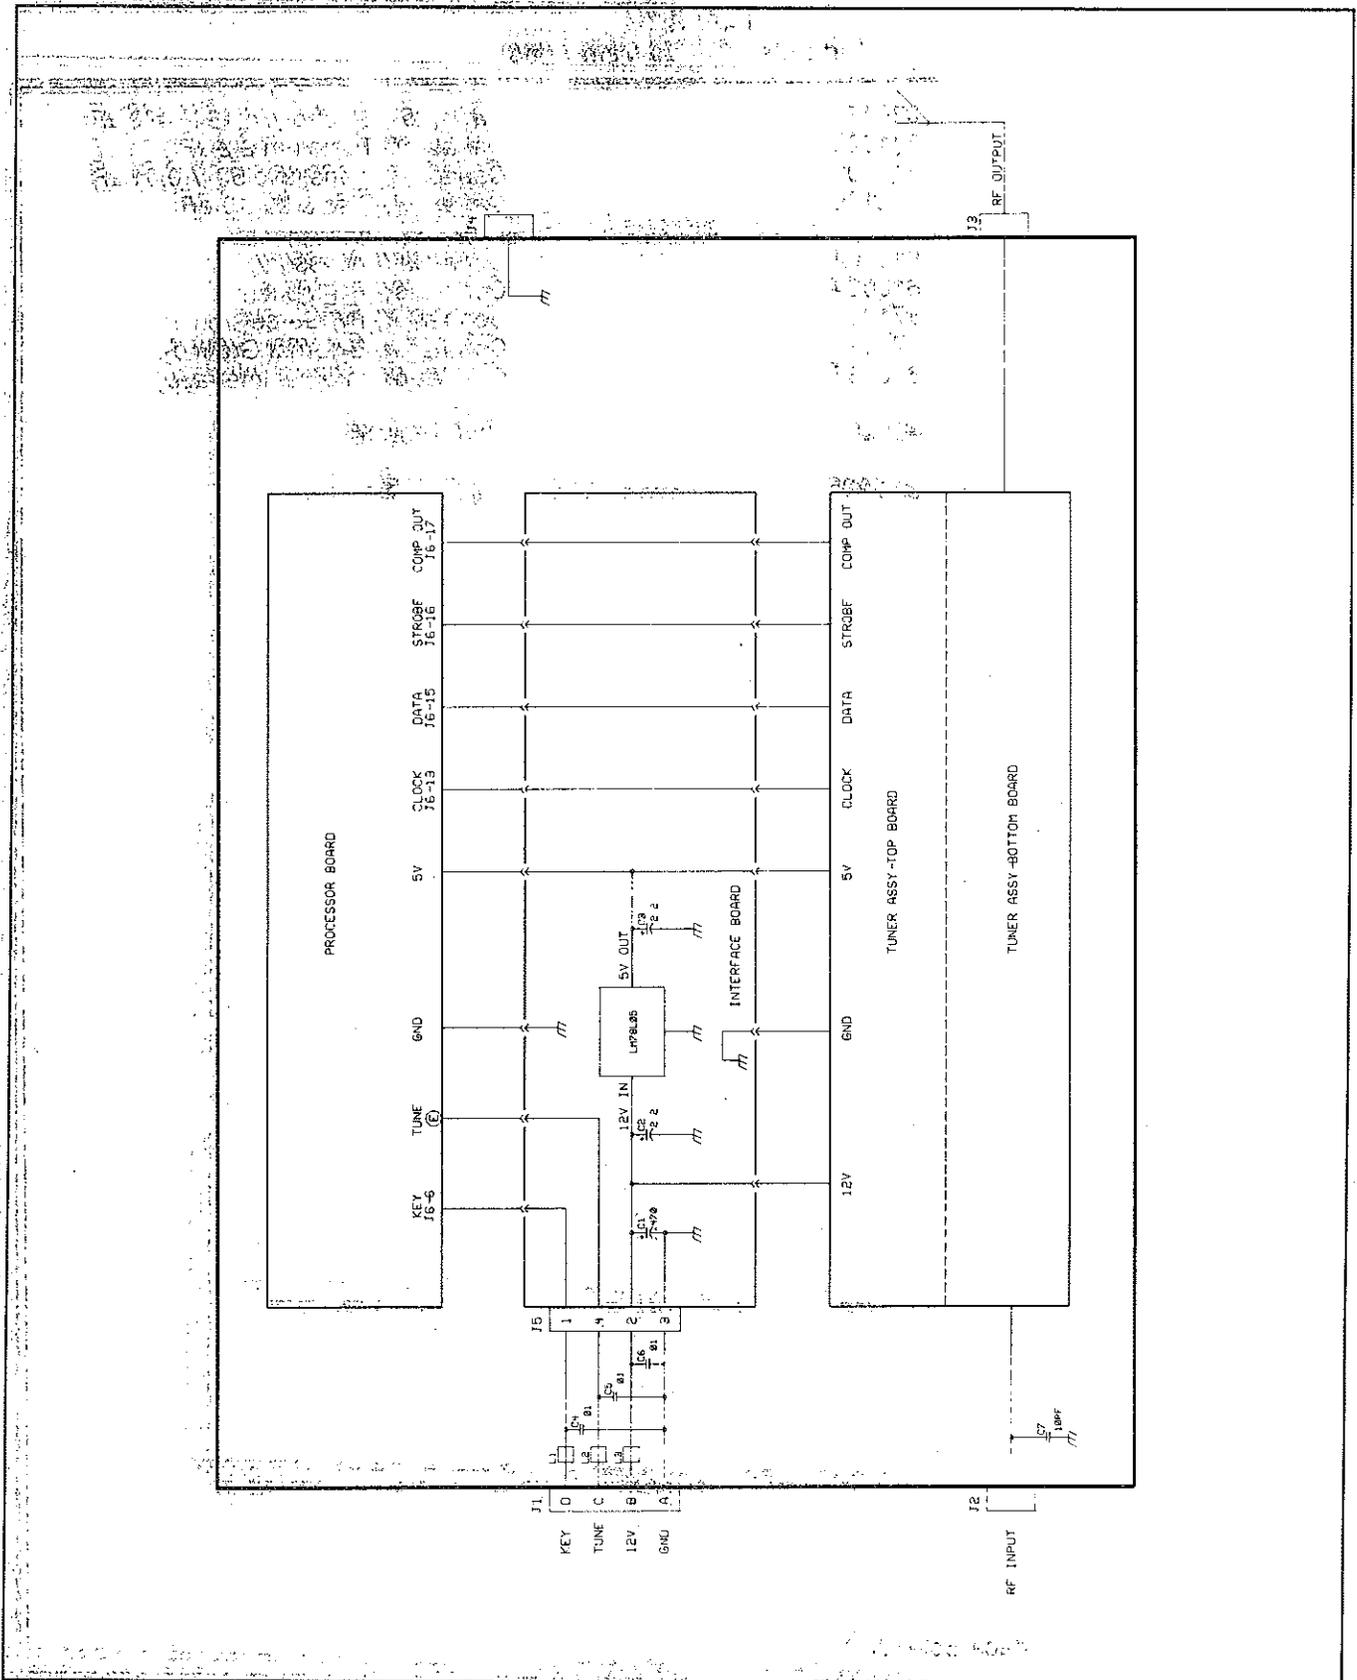

FIGURE 7-2.
Figure 7-1 shows an exploded view of the processor, interface and antenna tuner subassemblies, and the mainframe schematic is shown in Figure 7-2.
- a. Main supply 12 V at J5-2 (Refer to the mainframe schematic, Figure 7-2).